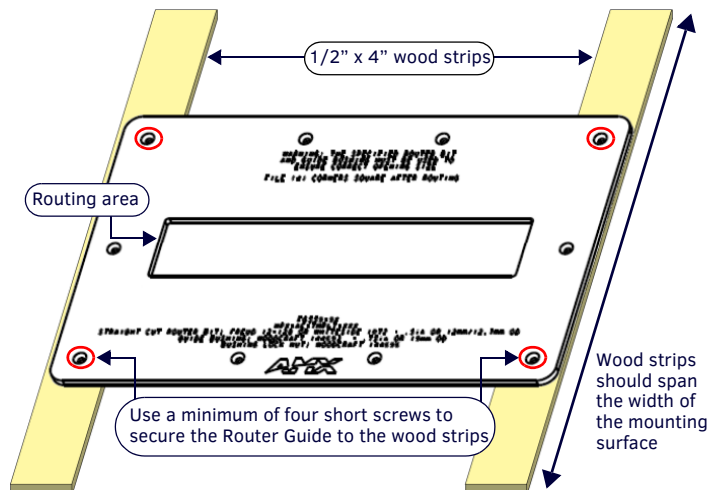

FIG. 6 SECURING THE ROUTER GUIDE
2. Use four or more short lock nut screws to secure the router guide to the wood strips (FIG. 6):